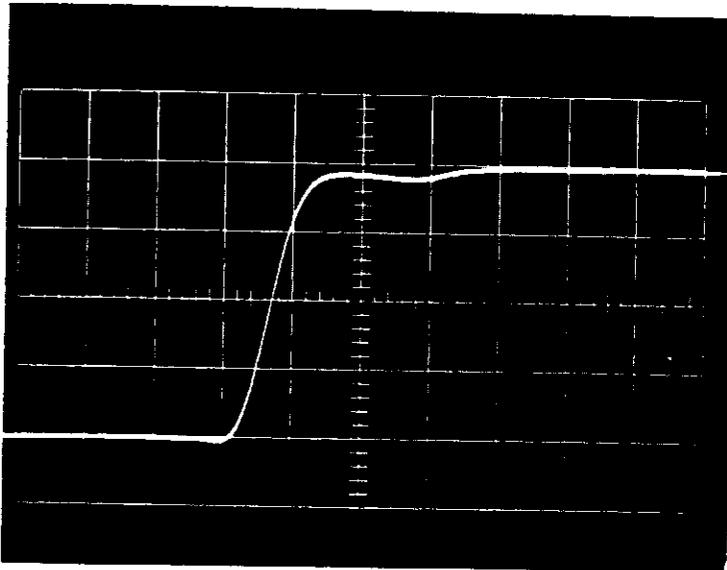
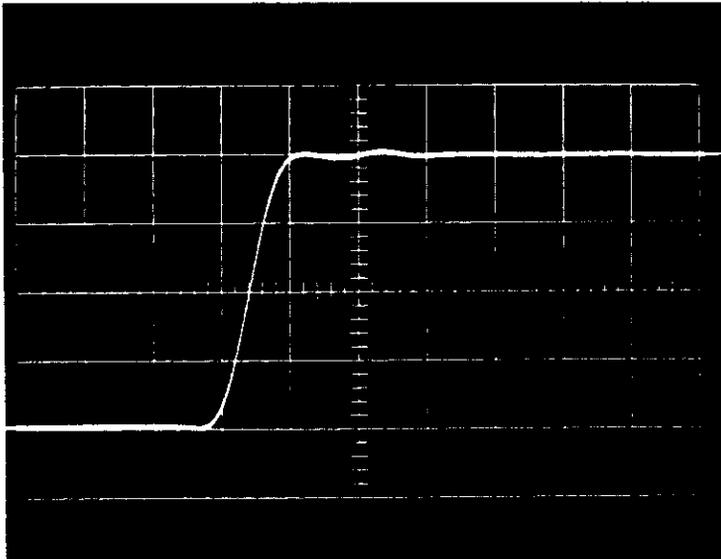

Figure 2-4.
Figure 2-5.
b. EFFECT OF IMPROPER TERMINATION (Figure 2-4)
Let us first consider the 50-ohm coaxial cable as a transmission link between some 50-ohm signal source and an oscilloscope. Assume that we have a 50-ohm generator which develops a .4-nanosecond rise time pulse and that it is desired to view this pulse on the oscilloscope using the Fairchild Type 79-02A 100 Mc Dual Trace Amplifier Plug-In. We must then transmit this pulse from the generator to the oscilloscope without degrading the signal. Under these conditions, no mismatch exists at the source; however, at the load end of the coaxial which is connected directly to the oscilloscope input, the line sees one megohm shunted by 14 pf of capacity. Due to the mismatch at the oscilloscope, a reflected voltage is transmitted from the mismatch back to the generator where the energy will be dissipated in the 50-ohm load. See Figure 2-4.
c. EFFECT OF SOURCE AND LOAD TERMINATION (Figure 2-5)
Let us examine more closely the effects of mismatch on improper termination. When a mismatch occurs within the system, there will be a reflected voltage. This reflected voltage is a product of the input signal voltage and the coefficient of reflection which can be designated as the parameter ( $\rho$ ). If the load impedance is much greater than the cable impedance, then  $\rho \rightarrow 1$ . If the load impedance approaches infinity, then the signal as viewed will be twice the output of the generator, and conversely if the load impedance is equal to zero, a short circuit exists and the signal output will be zero. When the transmission line at the load end sees a mismatch which is not a perfect open circuit, reflections occur causing signal deterioration. In order to obtain optimum response and pulse fidelity, it is necessary to terminate the load end of the line in its characteristic impedance. See Figure 2-5. The line is now terminated at both ends.
It can be seen that the reflection which was apparent in Figure 2-4 has been removed and the rise time has improved.
This shows an improvement over Figure 2-4 where a 42" unterminated cable was used. However the response and pulse fidelity is not of the quality shown in Figure 2-5 where a properly terminated line was used.